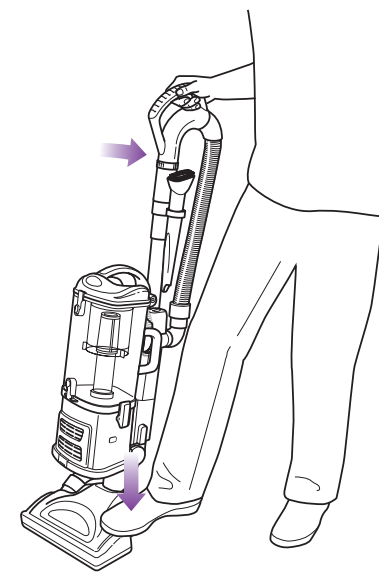

Fig. 14
- 4 Gently press the floor nozzle down with your foot while you grasp the handle and tilt it back towards you. (Fig. 14)